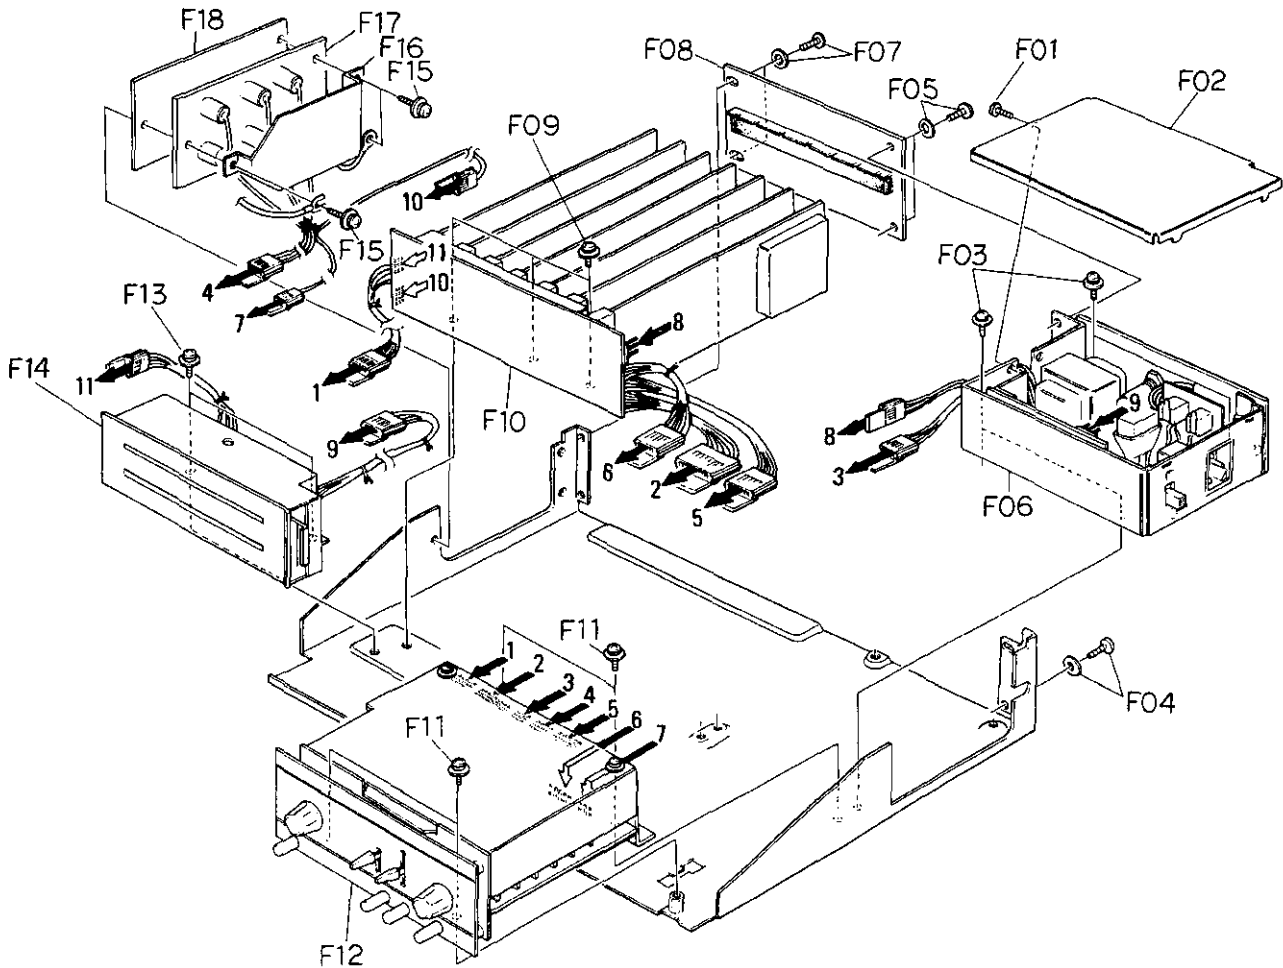

Fig. 2.2
Refer to Fig. 2.2.
- (1) Refer to Fig. 2.2. Remove Switch Control Ass'y referring to item 2.4.
- (2) Remove F01, then disassemble F02 (Rotary Switch Knob Ass'y).
- (3) Pull out F03 (Slide Switch Knob) and F04 (Calibration Knob).
- (4) Remove F05, then disassemble F06 (Front Panel Ass'y) and F07 (Front Panel Stud).
- (5) Remove F08, then disassemble F09 (Switch P.C.B. Insulator), F10 (Wire Holder 583) and F11 (Switch P.C.B. Holder Ass'y).
- (6) Remove F12 and F13, then disassemble F14 (Switch P.C.B. Ass'y).
- (7) Remove F15, then disassemble F16 (Volume P.C.B. Ass'y) and F17 (Switch Holder).
- (1) Refer to Fig. 2.2. Remove Bar-graph Holder Ass'y referring to item 2.4.
- (2) Remove F01, then disassemble F02 (Shield Cover Ass'y)
- (3) Remove F03, then disassemble F04 (Display P.C.B. Ass'y) and F05 (Display P.C.B. Insulator).
- (4) Remove F06, then disassemble F07 (Scale Panel Ass'y).
- (5) Remove F08, then disassemble F09 (8P Plug P.C.B. Ass'y).
- (6) Remove F10 and F11 (Pressure Plate Ass'y), then disassemble F12 (Bar-graph) and F13 (Bar-graph Holder Ass'y).
- (1) Refer to Fig. 2.2. Remove Power Supply Ass'y referring to item 2.2.
- (2) Remove F01, then disassemble F02 (Power Supply P.C.B. Ass'y).
- (3) Remove F03 and F04, then disassemble F05 (Power Transformer).
- (2) Remove F06 and F07, then disassemble F08 (Rear Panel A Ass'y).
- (3) Remove F09 and F10, then disassemble F11 (Power Switch).
- (4) Remove F12 and F13, then disassemble F14 (Power Supply Name Plate).
- (5) Remove F15 and F16 (Inlet Holder), then disassemble F17 (AC Inlet).